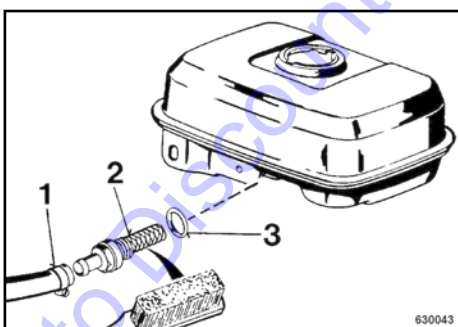

Fig. 58
Open the hose clamp (1) ↺ Fig. 58 and pull off the hose.